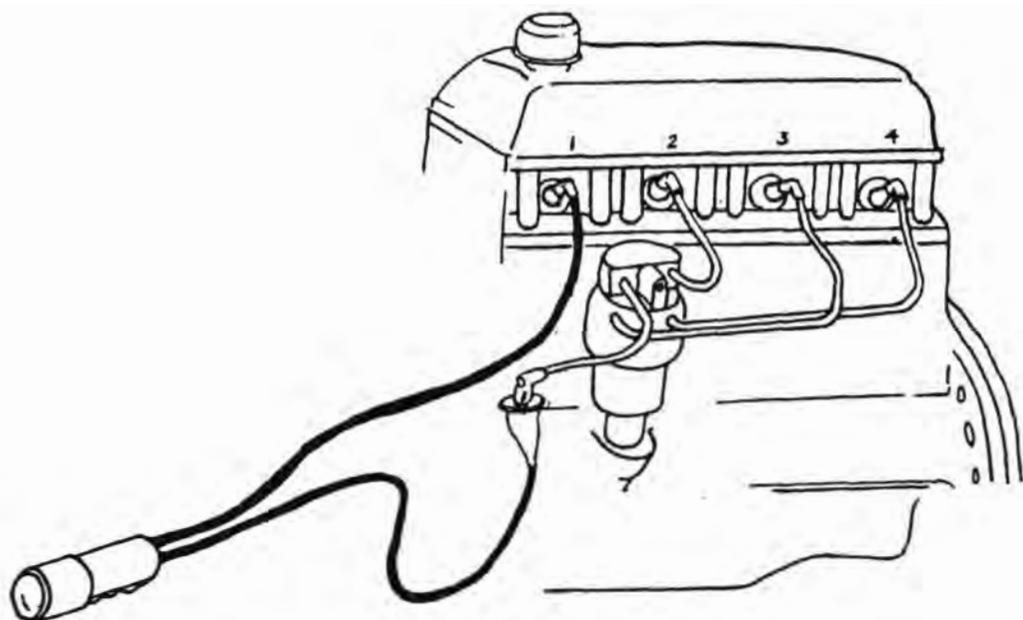

FIG. 32
2. Connect the timing light leads as shown in Figure 32.